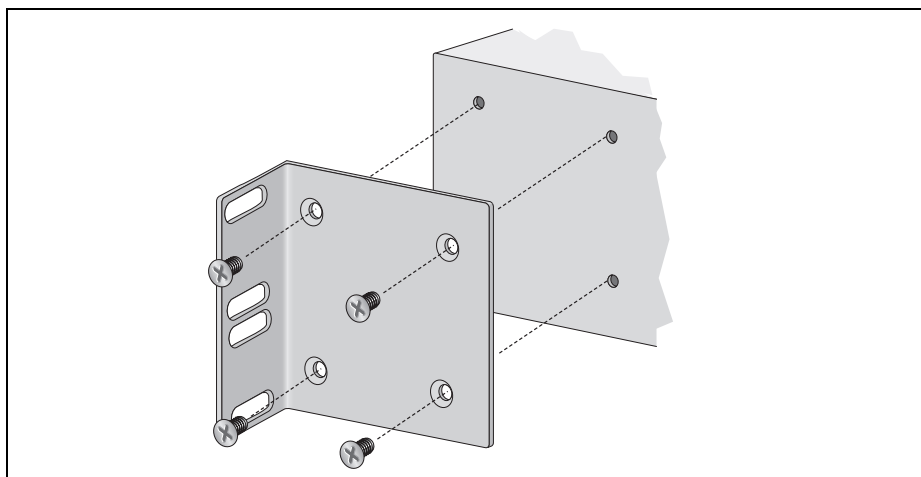

Figure 15. Attaching Rack-Mount Brackets
4. Attach a rack-mount bracket to one side of the switch using four of the screws that come with the switch, as shown in Figure 15.